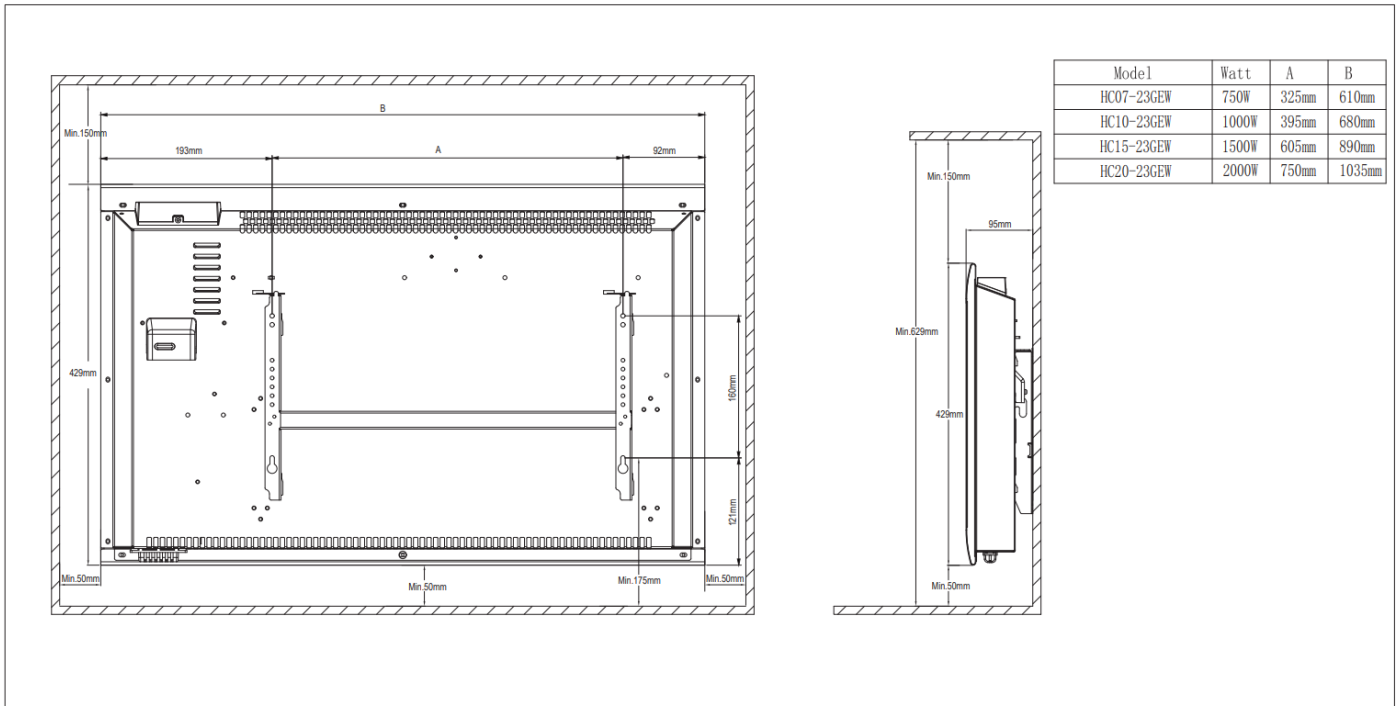

Fig 1
1. Choose a suitable installation location for the heater. Follow the minimum distances in all directions (Fig 1). Disassemble the wall bracket by loosening the screw (not screw off, only loosen) and sliding the metal pieces out of the hole. Take out the bracket by pulling it down.